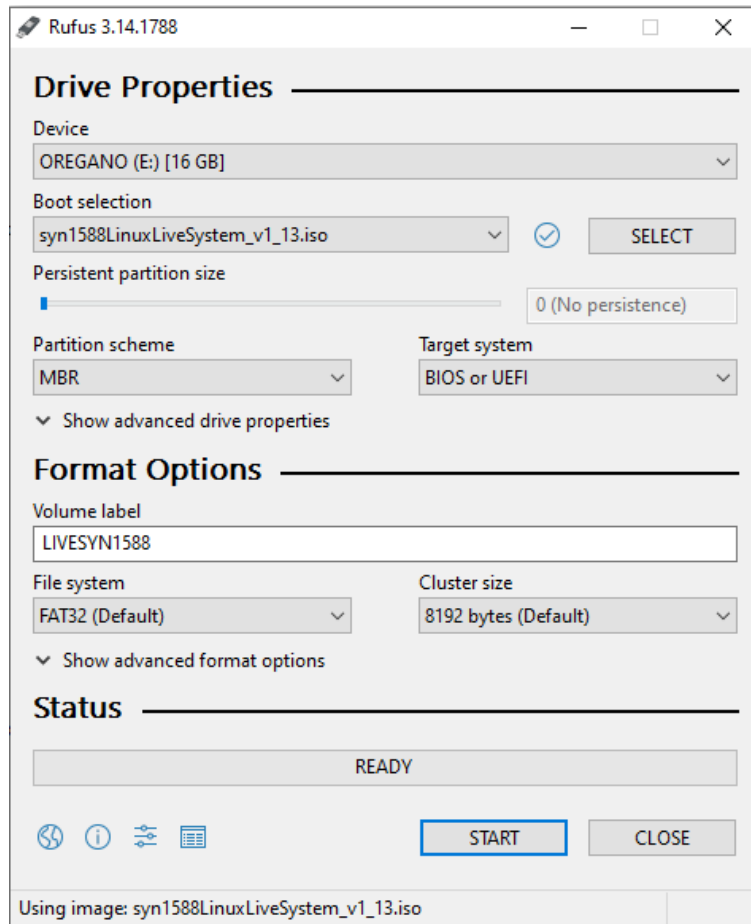

Figure 1: Creating a bootable USB with Rufus, basic configuration
2. Configure Rufus as shown in Figure 1. This is typically the default setting, only the syn1588® Linux Live System ISO file has to be chosen.